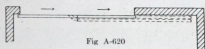

Fig. A-620
These important features of smooth door surface in closed position and economy of wall space in open position, are obtained by running one of the doors on a trolley track having a compound curve which sidetracks this door, as it opens, to a position beside its companion door (Figure A-620). Two doors may be installed to operate toward either side of the doorway.
- 2 flush doors sliding to one side of the doorway (Fig. A-620).
Plan, Fig. A-620—1 No. 525 Lock to lock one door from both inside and outside, and 1 No. 524 Bolt to lock one door from the inside only.
Example Order—1 opening 16 feet wide. 2 flush doors 8 feet 2 inches wide, 8 feet high; 1 1/4 inches thick, sliding to one side of doorway Fig. A-620 (Doors Right Hand). 2 No. 2x31 Brackets, 3 No. 1x31 Brackets, 1 No. 2x31 Bracket, 8 No. 2x31 Brackets, 1 No. 272 Floor End Door Guide, 1 No. 372 Door Guide, 1 No. 81-1 Bow Handle, 1 No. 1 c. x 31 Right Hand Compound Curve, 1 No. 525 Lock, 1 No. 524-1 Case Bolt, 1 pair No. 27 1/2B-1 K. J. Hangers, 1 pair No. 27 1/2B-1 Hangers.